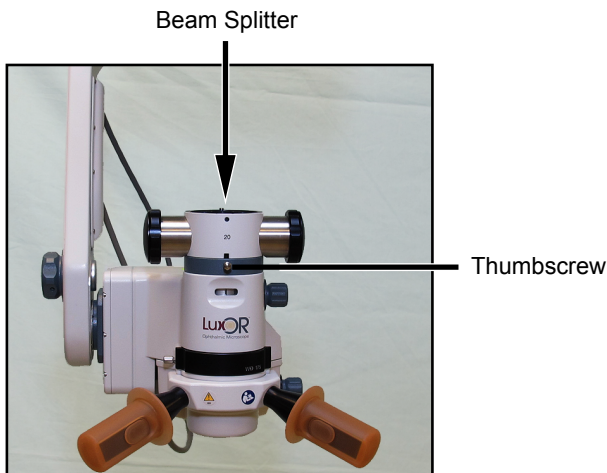

Figure 6-2 Installing the Beam Splitter
2. Install the beam splitter, 8065752314 (part of each of the video systems) on top of the microscope. Tighten the locking thumbscrew securely, (*Figure 6-2*).